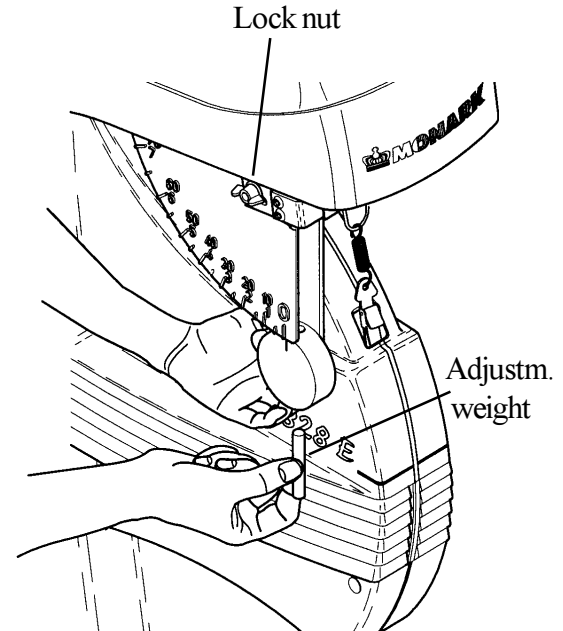

Fig. 9
Note: On the backside of the meter is a switch to change meter function from km to mile or mile to km. See fig. 9.
If adjustment is necessary, first loosen the lock nut and then change the position of the board, so that it will have its 0-index in line with the index of the weight. Tighten the lock nut after the adjustment. See fig 9.
6. Should there be a deviation, adjust the pendulum to the correct weight on the scale by means of the adjusting weight inside the pendelum. See fig 9.